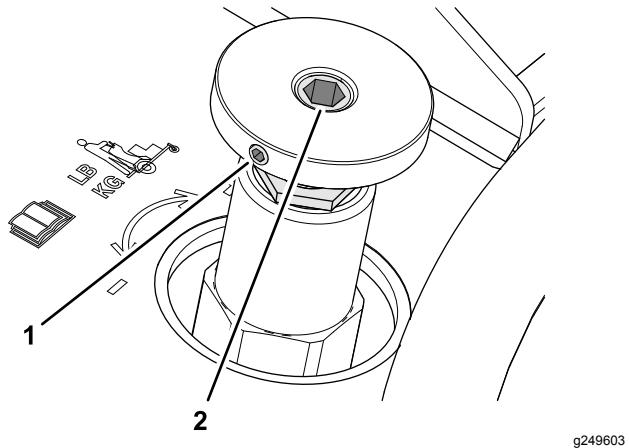

Figure 60
- Loosen the setscrew in the knob for the weight control valve; refer to Figure 60 in Adjusting the Operator Weight Control Valve \(page 47\).
**Note:** Do not twist the knob while removing it. If you need help maintaining the position of the control-valve shaft, use a hex key in the hex socket of the shaft to hold the align; refer to Figure 60 in Adjusting the Operator Weight Control Valve \(page 47\).